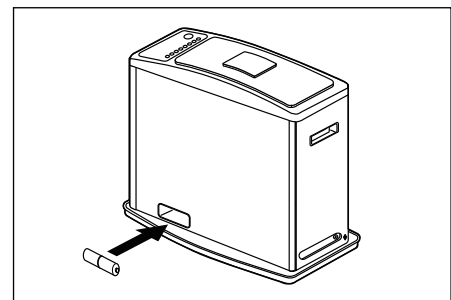

Fig. 3
6. INSTALLING BATTERIES(Fig.3)